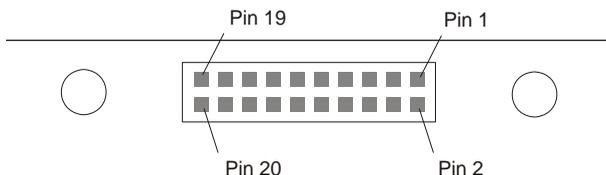

Figure 47: Top-view of 20-Pin Connector on the OEMV-1DF
- g. See also *Figure 47 on page 127* and its table.